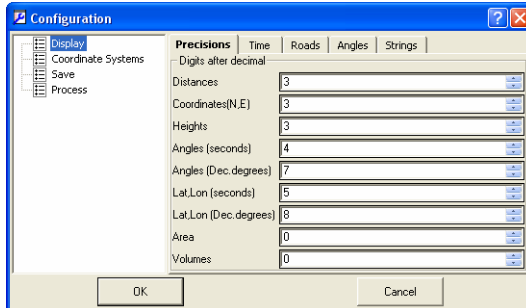

Figure 5-14. Job Configuration – Click Display
2. Click **Display** on the *Configuration* dialog box (Figure 5-14).